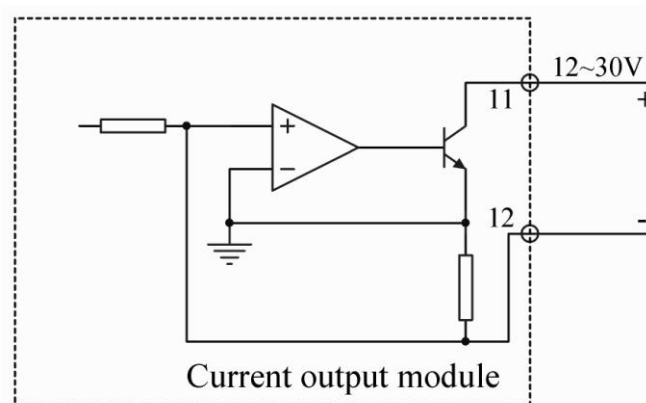

Figure 8: feedback output model electronic connection
4.7.2 Feedback output module electrical connections (Figure 8):